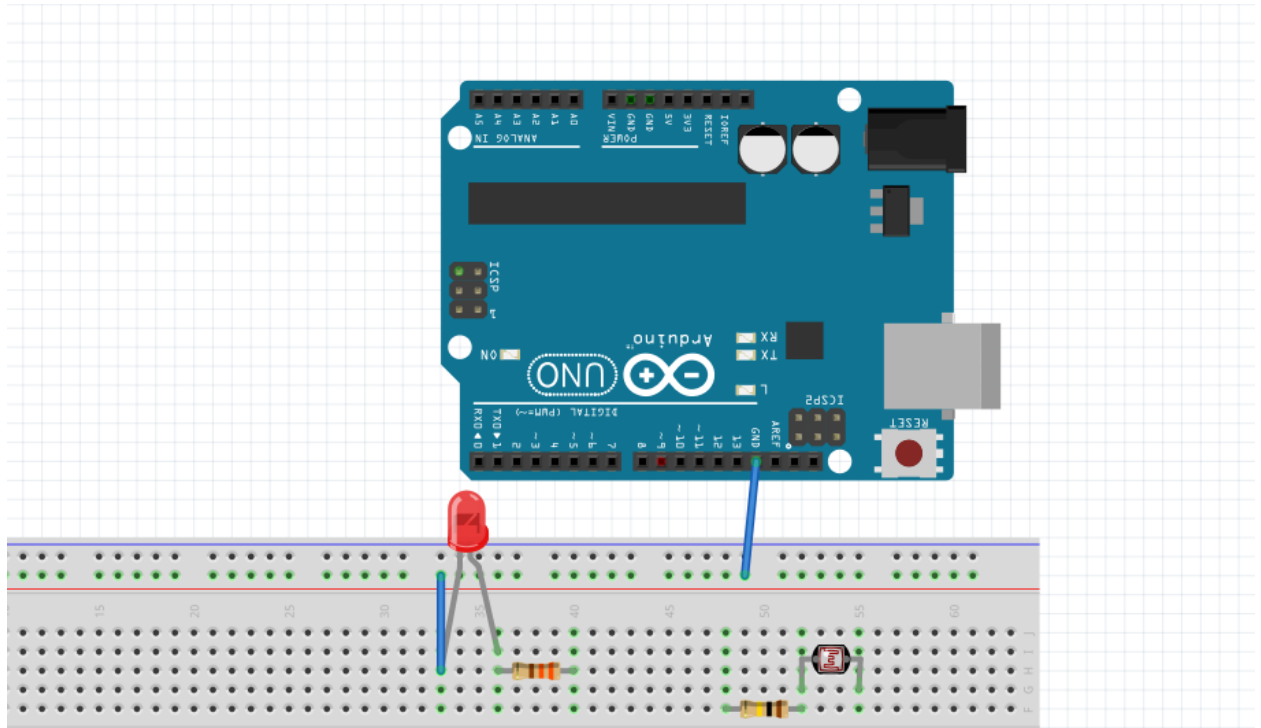

Figure 1.2
1. Connect the shorter leg of your LED to the common ground of the Arduino as shown in figure 1.2.